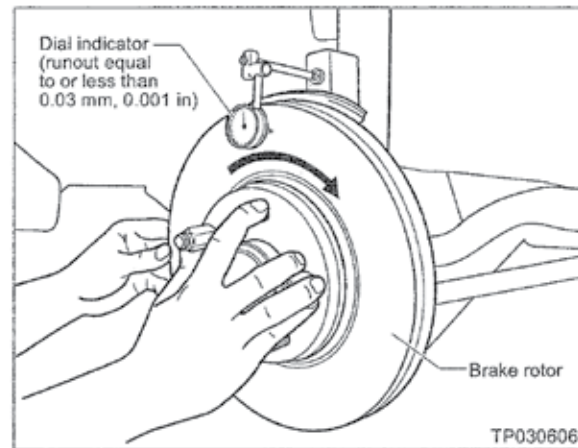

Figure 7
4. Measure rotor runout with a dial indicator (see Figure 7).